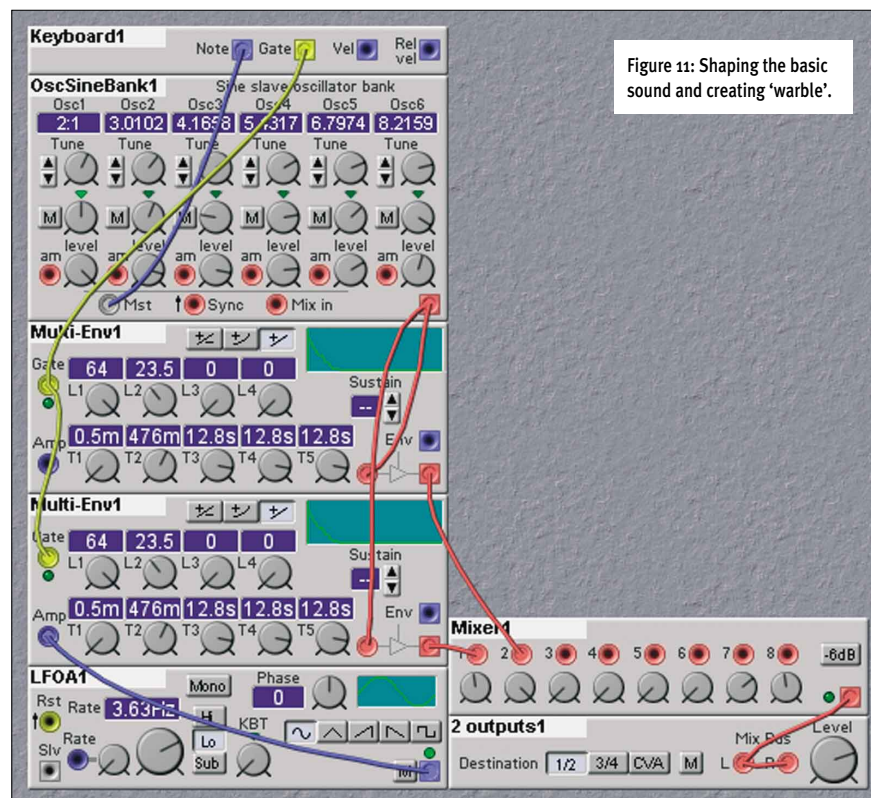

Figure 11: Shaping the basic sound and creating 'warble'.
- amplitude envelope of the whole sound rather than individual harmonics, but the effect is subjectively good (see Figure 11, above).
sound. I have generated the first of these with two-operator sine-wave FM synthesis, the output from which is passed through another envelope generator/amplifier with shorter decay/release times than the ones in Figure 11. The resulting sound is not particularly complex, but it is atonal, and